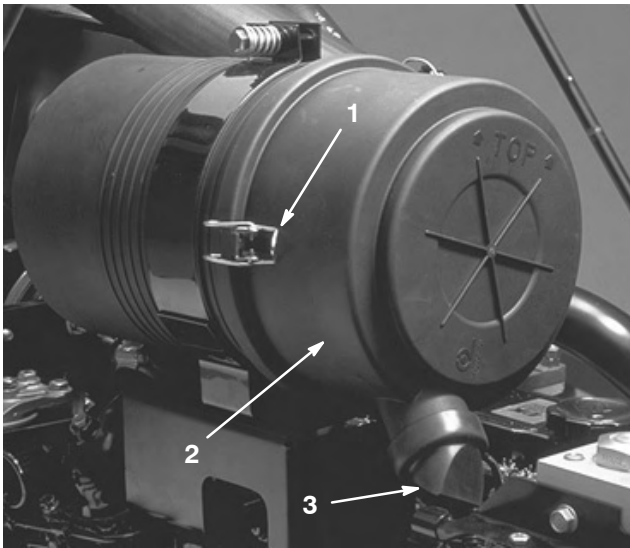

Figure 48
1. Release the latches securing the air cleaner cover to the air cleaner body (Fig. 48).
2. Remove the cover from the air cleaner body (Fig. 48). Before removing the filter, use low pressure air (40 psi, clean and dry) to help remove large accumulations of debris packed between outside of the filter and the canister. Avoid using high pressure air which could force dirt through the filter into the intake tract. This cleaning process prevents debris from migrating into the intake when the filter is removed.
4. Clean the dirt ejection port located in the removable cover. Remove the rubber outlet valve (Fig. 48) from the cover, clean the cavity and replace the outlet valve.